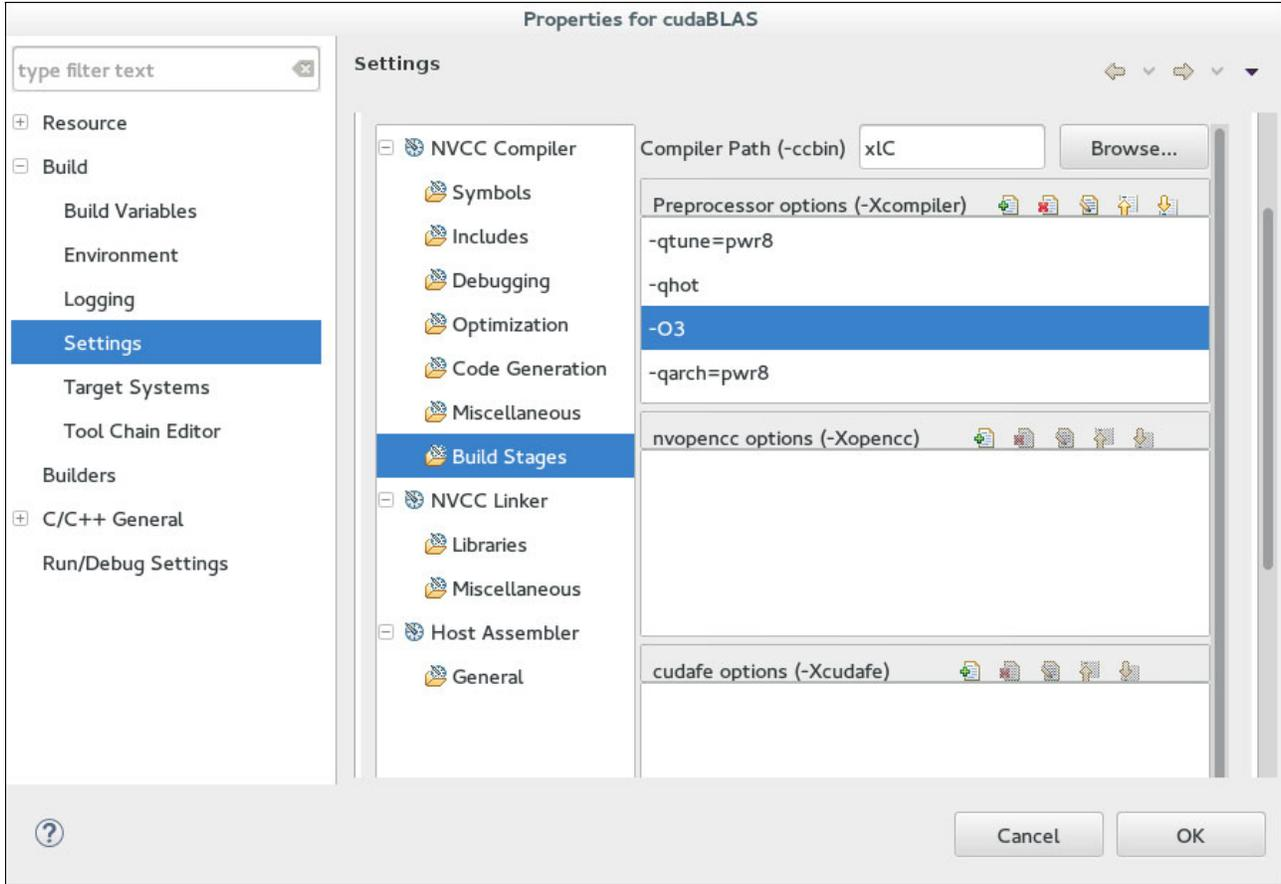

Figure 6-17 Nsight - new CUDA C/C++ project build settings
- As an optional step, i set the host compiler that is evoked by `nvcc`. Right-click the project name and select **Properties**. Expand **Build**, and then choose **Settings**. Click the Tool Settings tab, then select **Build Stages** to fill out the **Compiler Path** and **Preprocessor options** fields (see Figure 6-17). Change the content of the **Compiler Path** under the Miscellaneous section of the NVCC Linker window.